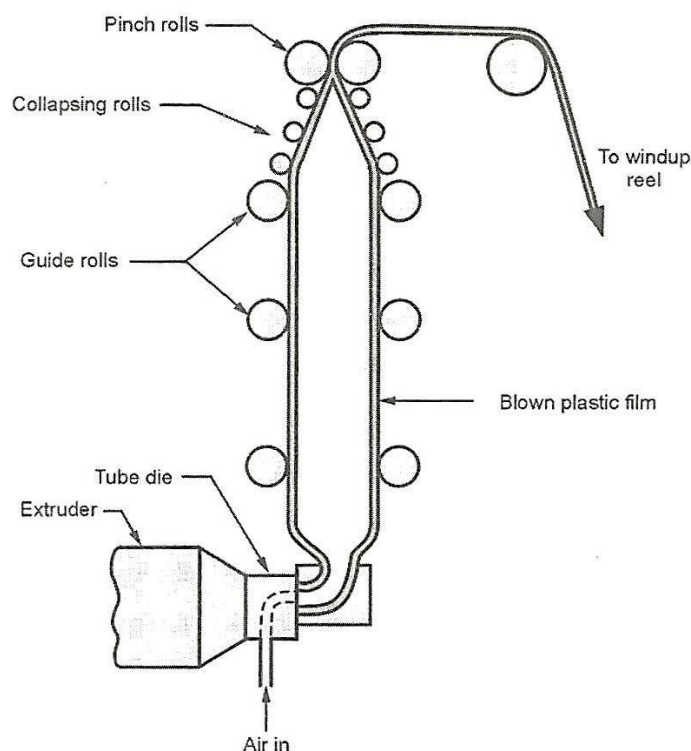

Figure 5.11 Extrusion of Film
- It is a complex process which combines the principle of extrusion and blowing to produce an thin film Refer figure 5.11.